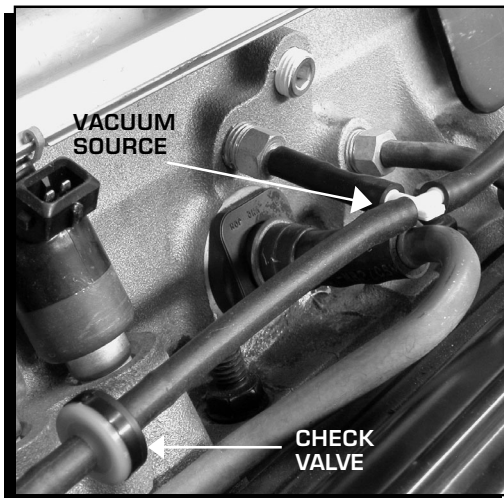

Figure 8 Connecting the Vacuum Source.
2. Route the vacuum line around the side of the engine and up to the intake manifold. Splice into the hose that connects just over the PCV valve (Figure 8). Also note the check valve that is in-line. The black side of the valve must face towards the vacuum source.